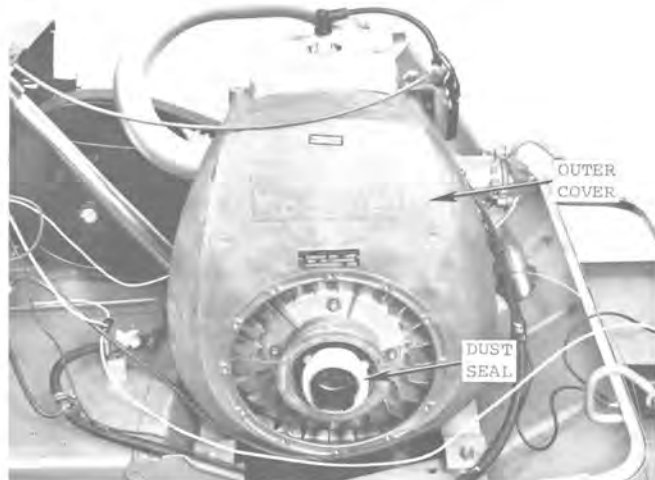

Fig. 31 — Recoil Starter Removed — Engine Mounted in Ski Whiz
1. Remove the recoil starter, then remove the dust seal and outer cover. See Fig. 31.